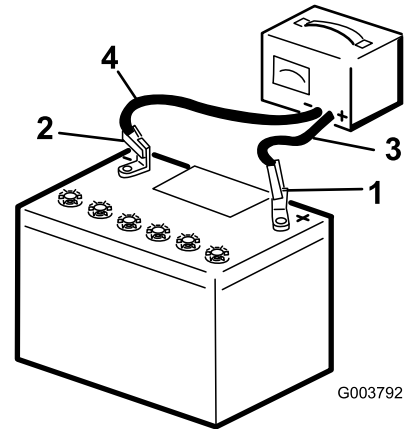

Figure 38
- Charge the battery at a rate of 3 to 4 A for 4 to 8 hours (Figure 38). Do not overcharge the battery.
- When the battery is fully charged, unplug the charger from the electrical outlet, then disconnect the charger leads from the battery posts (Figure 38).